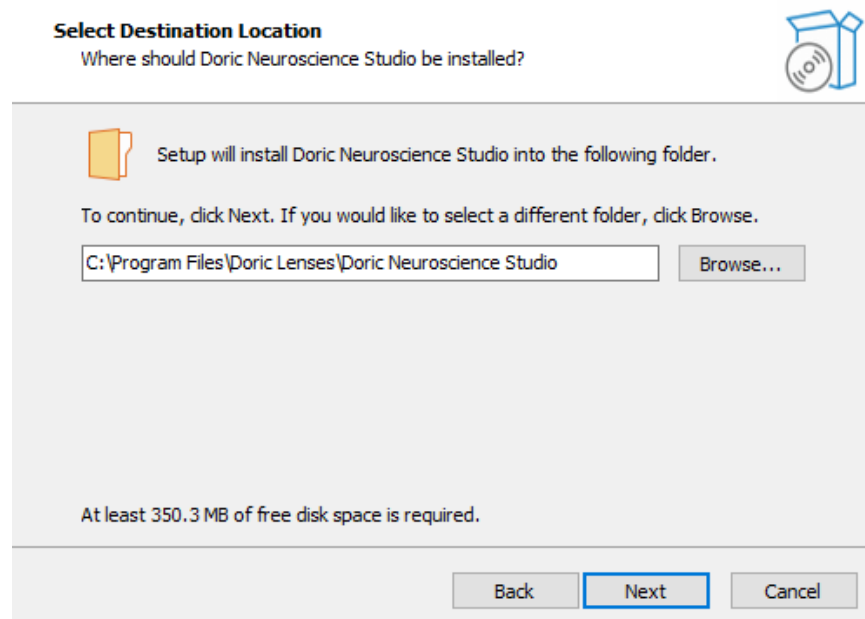

Figure 2.1: *Select Destination Location*
4. **Choose** where to install the software (Fig. 2.1) and click **Next**.